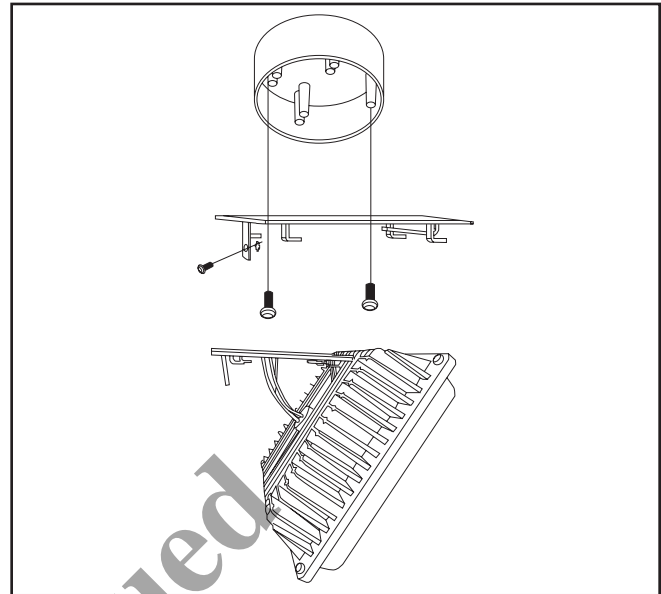

Figure 2.
2. Install the mounting plate to the junction box (Figure 2).